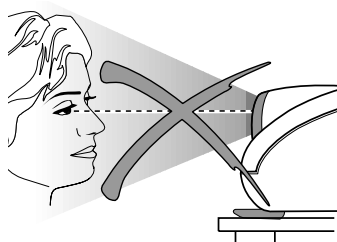

Fig. 13
**CAUTION:** Intense Light Source! Do not stare directly into the projection lens as possible eye damage could result. Be especially careful that children do not stare directly into the beam (Fig. 13).